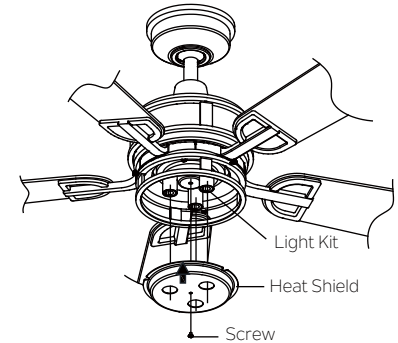

Fig. 24
Step 5. Align the screw hole located on the middle hole of light kit and head shield. Pass the three sockets on the light kit over the bigger holes on the head shield. Securely tighten the screw removed previously on step 1. (Fig. 24)